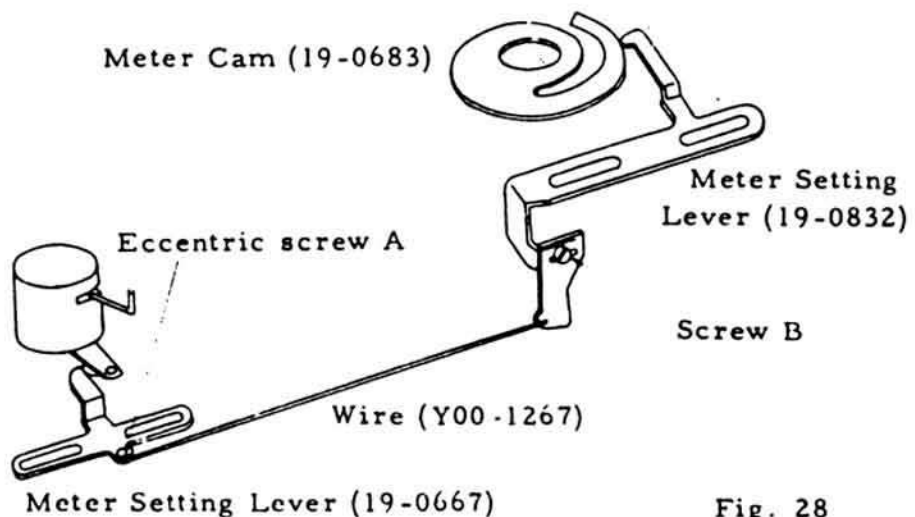

Fig. 28
2) Set the eccentric screw A (Fig. 28) to its position.
3) At ASA 100 1/125 sec, the inscribed line of Meter Holder (13-9781) coincides with that of Meter Cover. In this case, the lever of Meter becomes perpendicular. See Fig. 29. Make adjustment by turning the screw B. See Fig. 28.